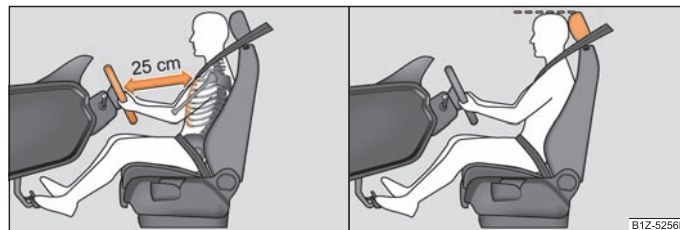

Fig. 129 The correct distance of the driver from the steering wheel/The correct head restraint adjustment for the driver
- Adjust the steering wheel so that the distance between the steering wheel and your chest is at least 25 cm ⇒ fig. 129 - left.
- Adjust the head restraint so that the top edge of the head restraint is at the same level as the upper part of your head ⇒ fig. 129 - right.
- The driver must maintain a distance of at least 25 cm to the steering wheel ⇒ page 138, fig. 129 left. Not maintaining this minimum distance will mean that the airbag system will not be able to properly protect you - hazard!
- Adjust the head restraint so that the top edge of the head restraint is at the same level as the upper part of your head ⇒ page 138, fig. 129 - right.
- Adjust the head restraints so that the top edge of the head restraints is at the same level as the upper part of your head ⇒ page 138, fig. 129 - on the right.